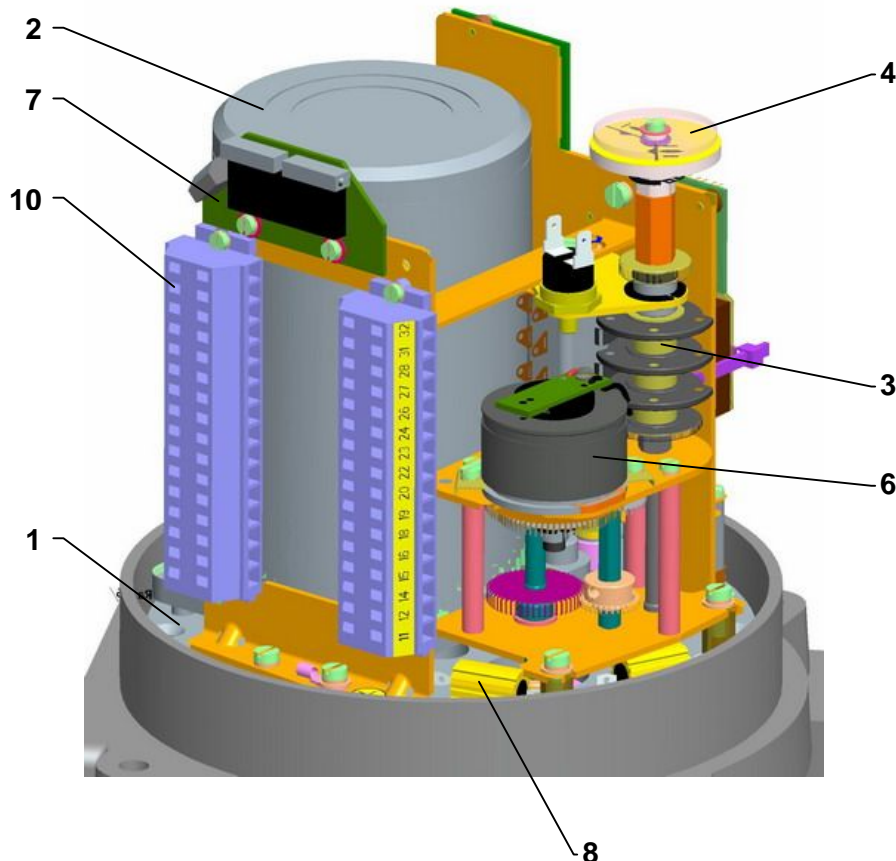

Fig.1
The **control part (Fig. 1, 1a)** is placed on a control board (1) consisting of:
- electric motor (2) (at single-phase version with capacitor)
- torque unit (5) (controlled with a worm axial shift)
- position-signaling unit (3) with a position transmitter (6)- positioner (resistive - potentiometer, capacitive or electronic position transmitter) (7) and with a mechanical local position indicator (4)
- space heater (8) with thermal switch
- electronic module (9)
- electrical connection through terminals (10), located in the control area and cable glands Ex d version